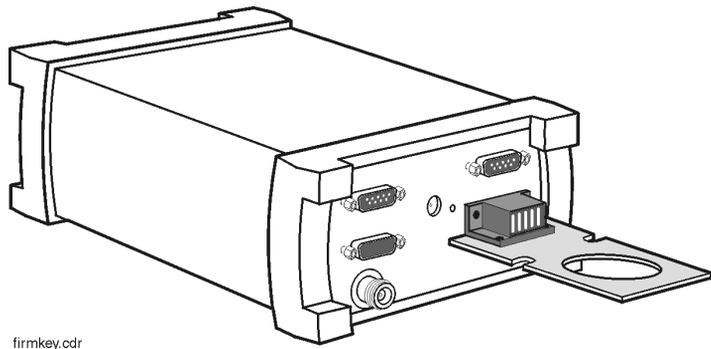

Figure 57 Receiver with dongle attached
- 3** Insert the firmware programming dongle into the Rx Loop Out port of the receiver, as shown in Figure 57.